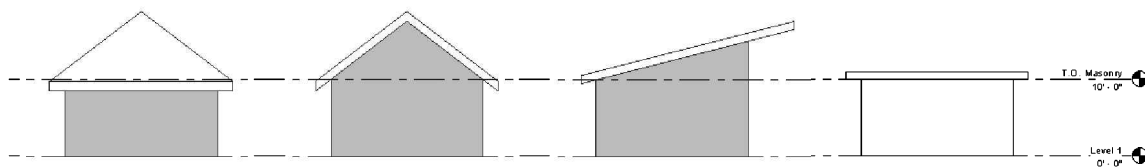

FIGURE 6-1.13 South elevation – flat roof
54. Switch to the South elevation view (Figure 6-1.13).